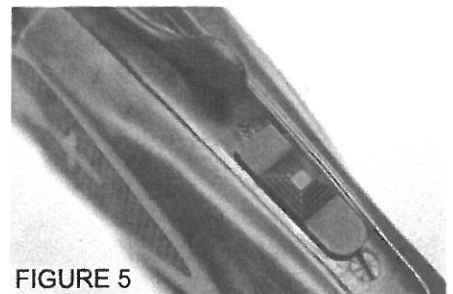

FIGURE 5
- Keeping your fingers away from the trigger and out of the action, close the action by pulling up on the barrels until it snaps shut. Do not use excessive force in closing the action, it should close easily and you should hear an audible "click" as the action locks. When the action is closed and locked, the top lever will return to its former position (FIGURE 5) pointing to the rear. If it does not do so, do not attempt to fire the gun, as the action is not fully locked and damage to the gun and serious injury to you or others may result.